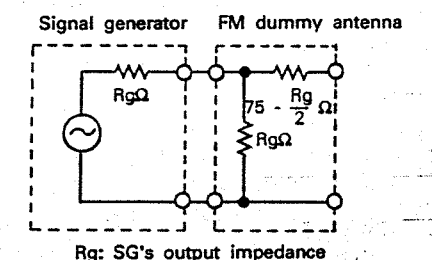

Fig. 16
6. FM dummy antenna shows Fig. 16.